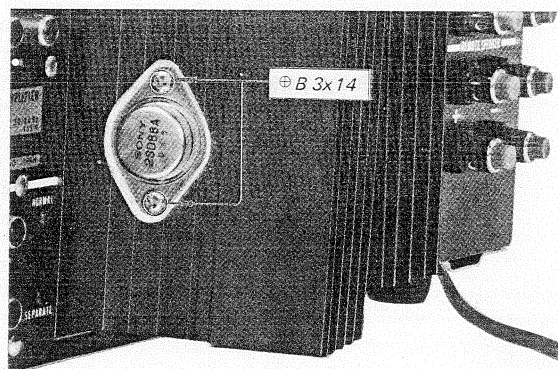

Fig. 2-9 Power transistor removal
4. Carefully draw back the pair of heat sinks, and then remove the two screws ($\oplus B 3 \times 14$) and nuts securing the power transistor to the heat sink. See Fig. 2-9.